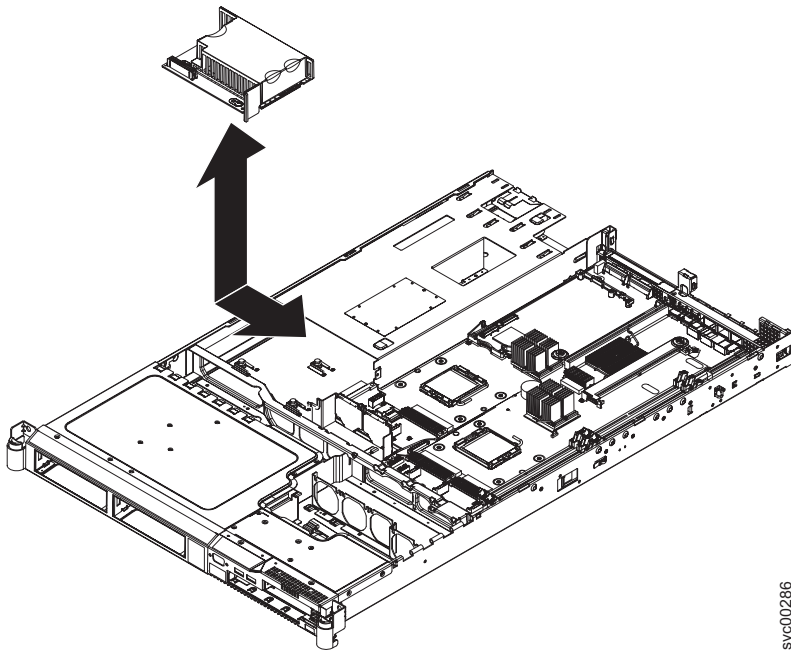

Figure 164. SAN Volume Controller 2145-8G4 power backplane
5. Disconnect the power supplies from the power-supply backplane, as shown in Figure 164.